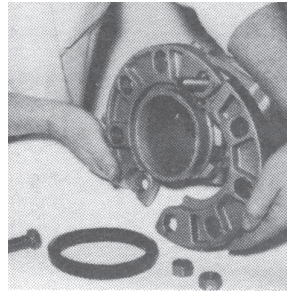
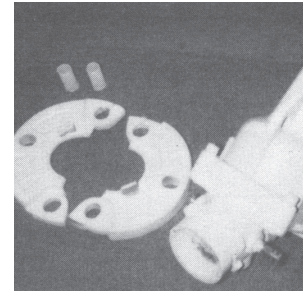
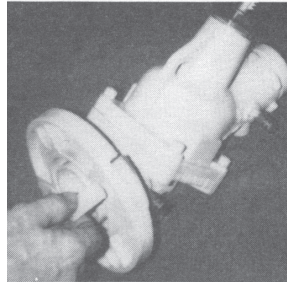

Fig. 3A
Fig. 3B
Fig. 3C
1. Position the two halves of the flange adapter onto the groove in the valve body end(s), making sure that the tab on each flange adapter half is located between the two locking lugs on the valve body (Fig. 3A). Insert the two plastic **Positioning Sleeves** (enclosed in the box with the flanges) (Fig. 3B) where the two halves of the flange adapter come together (Fig. 3C). The **Positioning Sleeves** will hold the flange halves together helping to facilitate joining to the mating flange(s).